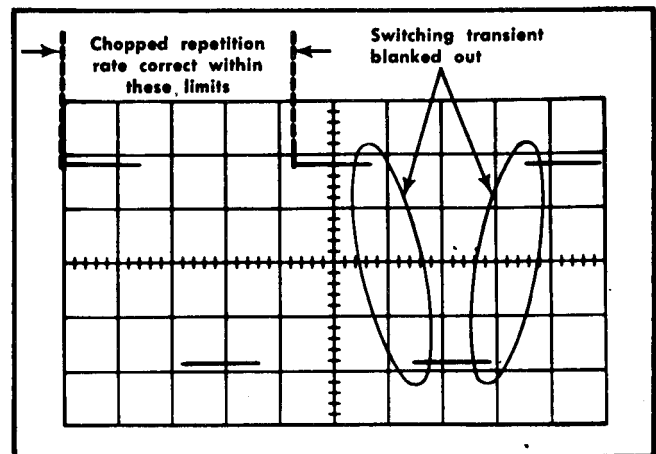

Fig. 5-27. Typical CRT display when checking chopped repetition rate and blanking.
d. CHECK-Each cycle for duration of 3.4 to 5 divisions (500 kilohertz, $\pm 20\%$; see Fig. 5-27).
e. CHECK-CRT display for complete blanking of switching transients between chopped segments (see Fig. 5-27).